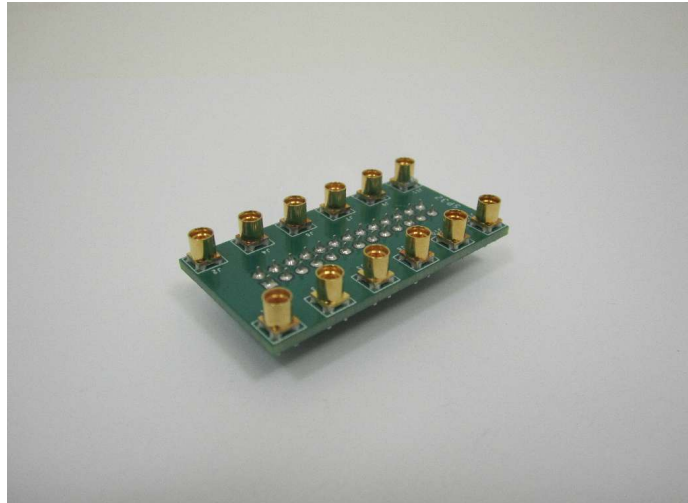

Figure 1: MMCX Adapter Board allows easy access to individual bits
The shrouded IDC connectors labeled Flag 12..23 and Flag 24.. 35 can also be accessed using an SP32 board (Figure 1) which allows the use of MMCX cables. This enables the individual bits of the PulseBlaster to be more easily accessed. Pin 1 on the MMCX adapter board can be identified with a square pin.
1. SpinCore MMCX Adapter Board Figure 1 – This adapter board allows easy access to the individual bits of the PulseBlasterESR DualCore. MMCX cables are available upon request. For ordering information contact SpinCore at <http://www.spincore.com/contact.shtml>.